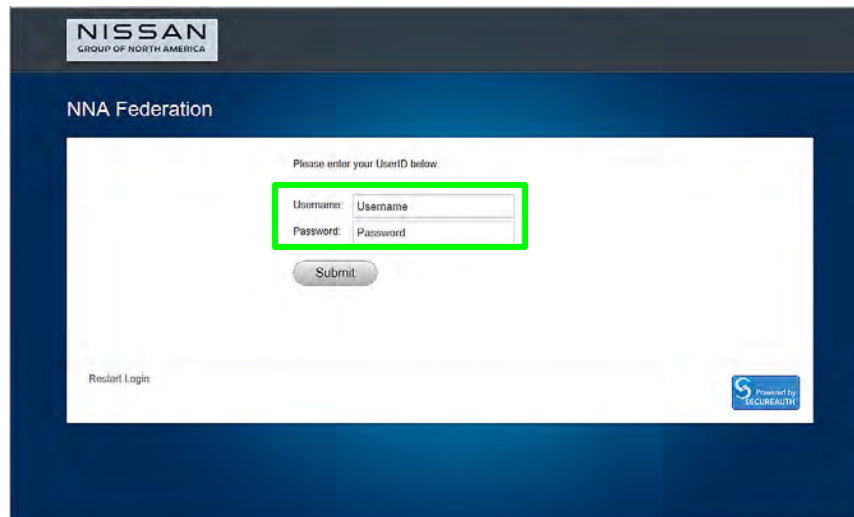

Figure 2
6. Login using your NNAnet credentials (Figure 2).